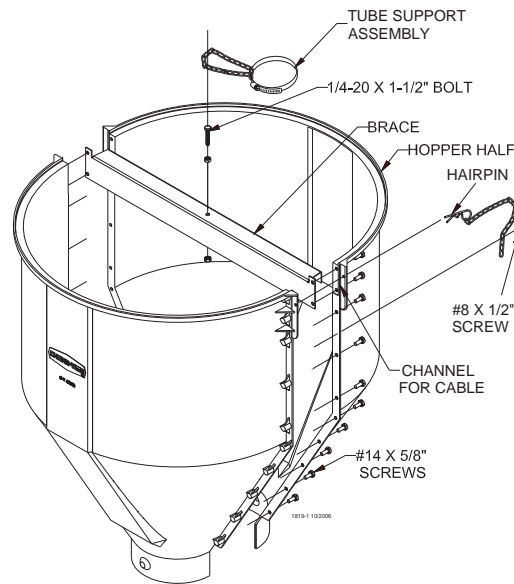

Figure 21.
1. Assemble the 1/4-20 x 1-1/2" bolt to the brace with two 1/4-20 nuts. One nut should be assembled under the brace with the other on top. This bolt is to provide a place for the tube support assembly chain to be hooked, see **figure 21**.
2. Assemble the 150 lb. hopper halves and brace as shown in **Figure 21**, using #14 x 5/8" screws (supplied in hardware package).
3. Assemble the #8 x 1/2" screws and chain as shown in **Figure 21**.